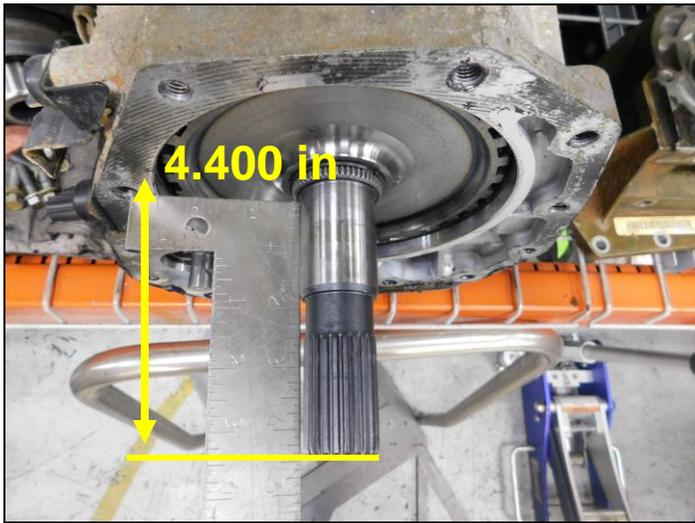

Figure 1
- Measure the overall length of the output shaft on the **545RFE 4x4** transmission. It should measure 4.400in from case flange to the end of the output shaft with no adapter (**Figure 1**).